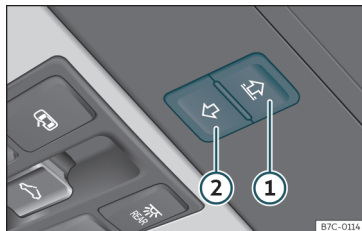

Fig. 118 On the interior roof lining: switches for the sun blind.
Buttons >>> **Fig. 118** **(1)** and **(2)** have two levels. The first level opens or closes the sun blind fully or partially.
- *Sun blind*: within approximately 5 seconds of having activated the anti-trap function, press button >>> Fig. 118 (2) until the sun blind closes completely.